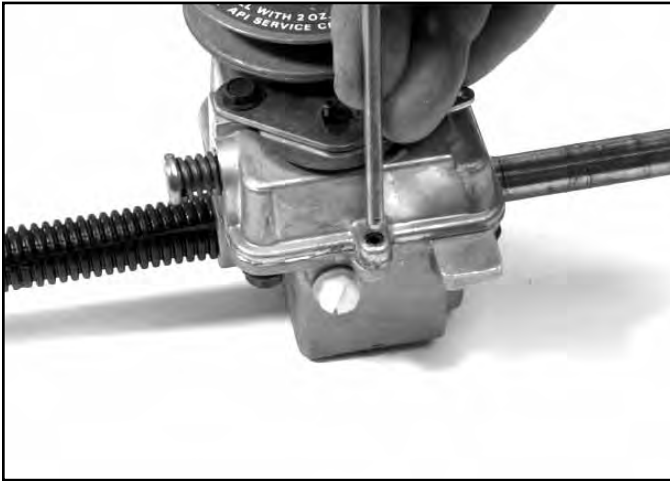

Fig 010 3428-0146
2. Drive the roll pins out of the flanges in the front and rear of the case. (These pins align the top and bottom parts of the case) (Fig. 010).